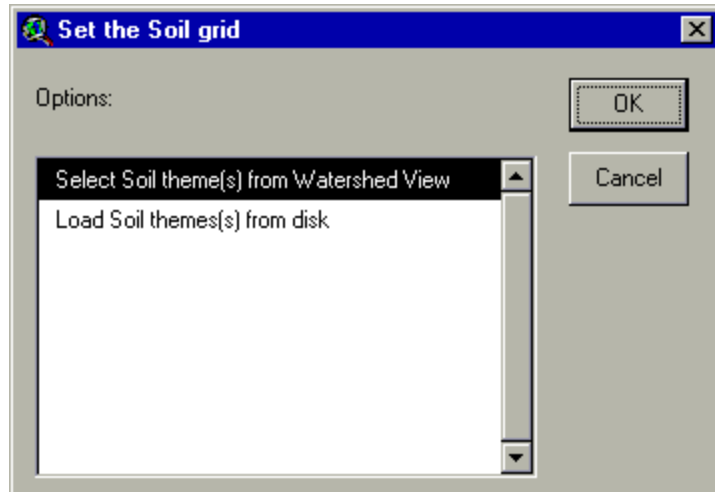

Figure 15.32
16. A prompt box will appear (Figure 15.32).